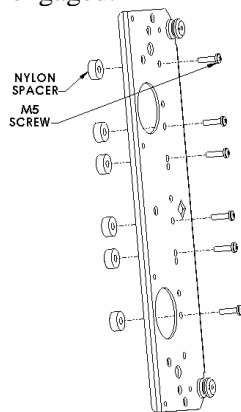
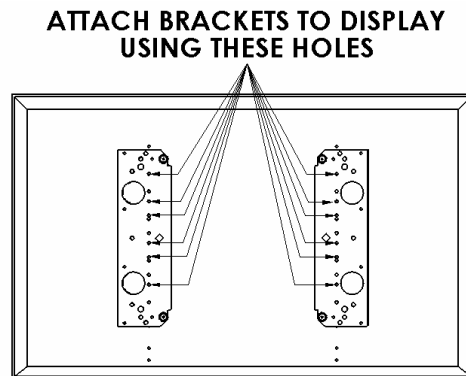

Figure 4
Figure 5
2. Place Nylon spacers on mounting holes and align hole pattern on brackets with pattern on back of display (see Figure 4 & Figure 5). Attach bracket using the M5 screws.